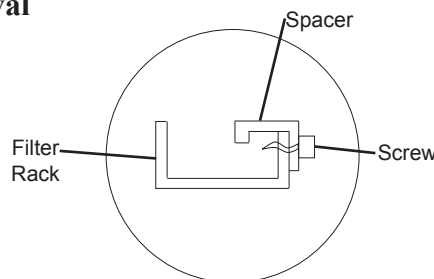

Fig. 6 - Filter Rack Detail
2. Install the top filter rack in the HVAC unit next to the indoor coil. Lift rack to the top of the return chamber and screw rack into coil frame on both the left and right side. Be careful not to insert screws where coil damage could occur. If using 2" (50.8mm) filters remove filter spacer. Fig. 6.